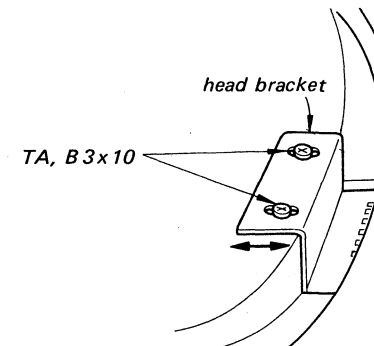
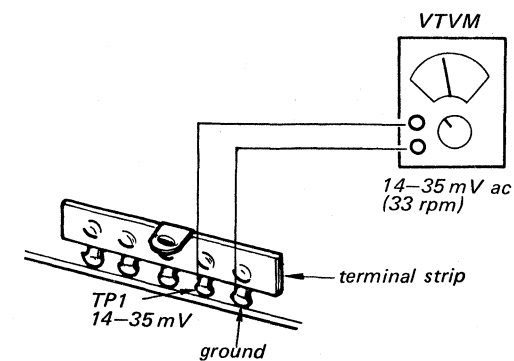

Fig. 3-2
Fig. 3-3
1. Adjust the position of the head bracket by loosening B 3×10 screws (See Fig. 3-2) so that the VTVM reads 14–35 mV (33 rpm) as shown in Fig. 3-3.